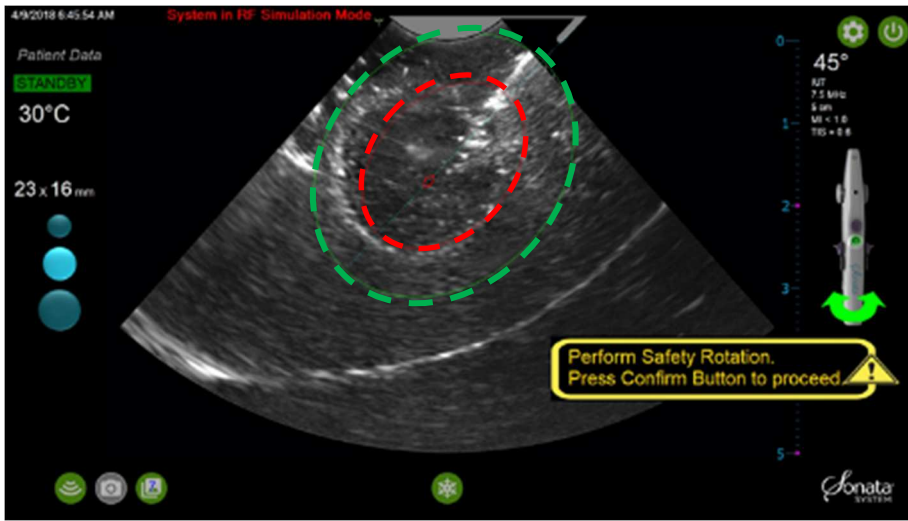

Figure 4-21. Example of SMART Guide aligned and Thermal Safety Border (green outer ellipse) within serosal margin.
- Rotate the Sonata Treatment Device in both directions to verify that the Thermal Safety Border (green outer ellipse) does not cross the serosal margin in all adjacent visual planes, see Figure 4-21.